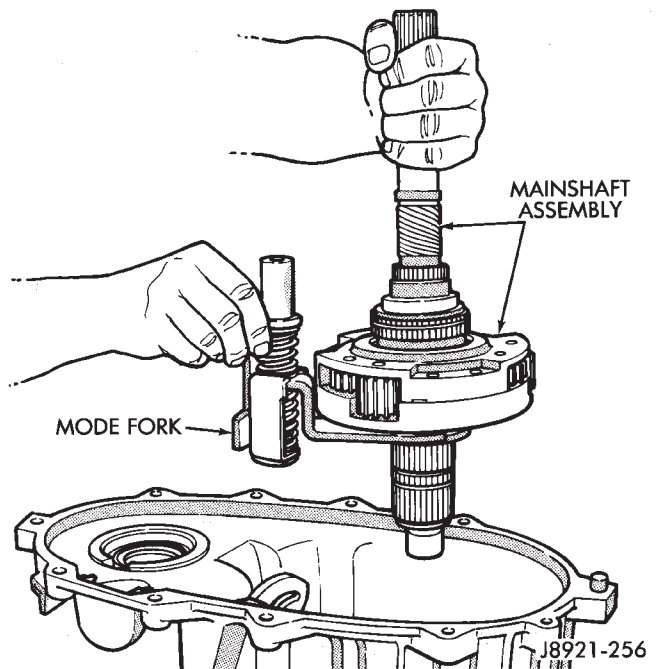
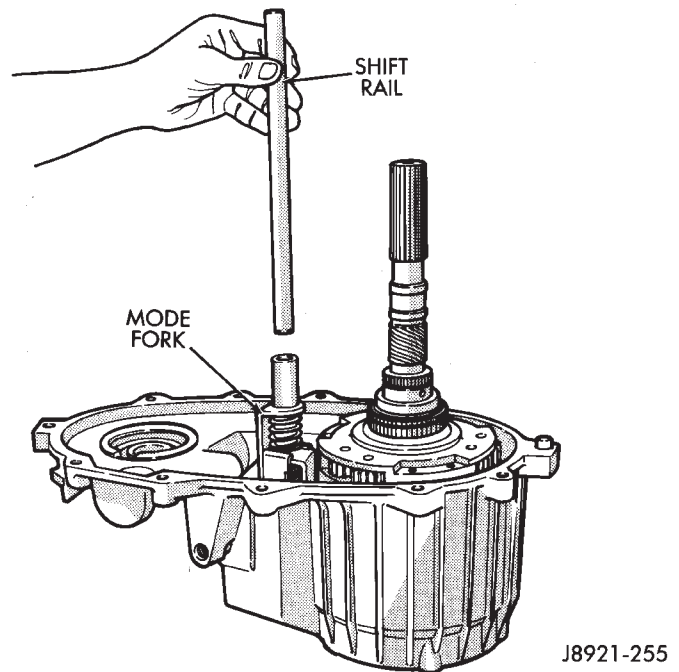
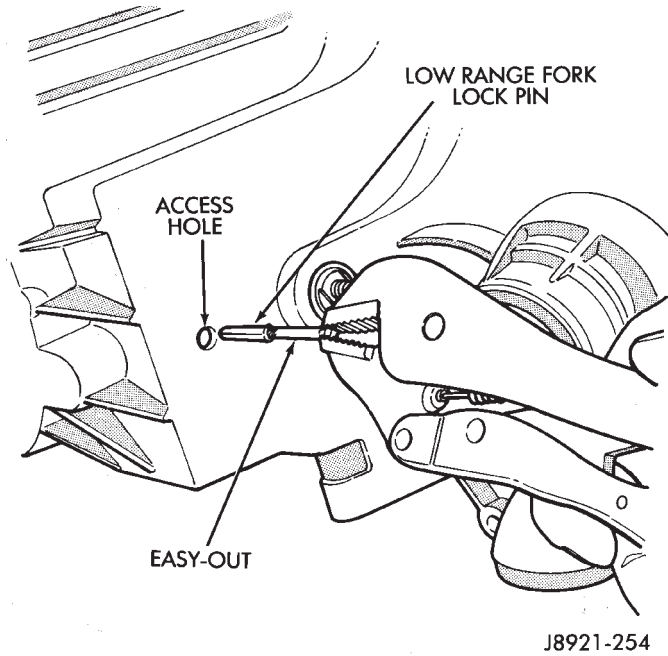

Fig. 64 Assembled Mainshaft And Mode Fork Installation
Fig. 65 Shift Rail Installation
Fig. 66 Installing Low Range Fork Lockpin
(41) Install mode fork and mainshaft assembly in case (Fig. 64). Rotate mainshaft slightly to engage shaft with low range gears.
(42) Rotate mode fork pin into shift sector slot.
(43) Install shift rail (Fig. 65). **Be sure rail is seated in both shift forks.**
(44) Rotate shift sector to align lockpin hole in low range fork with access hole in case.
(45) Insert an easy-out in range fork lockpin to hold it securely for installation (Fig. 66). **Lockpin is slightly tapered on one end. Insert tapered end into fork and rail.**
(46) Insert lockpin through access hole and into shift fork (Fig. 66). Then remove easy-out and seat the pin with pin punch.